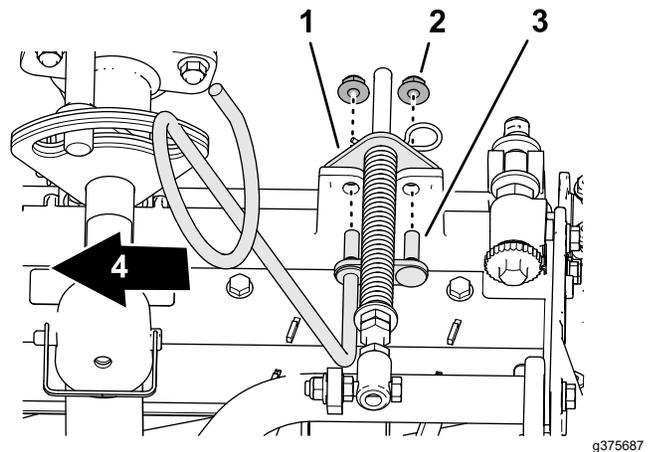

**Figure 10**
4. Assemble the capscREW of the turf compensation spring to the right tab of the carrier frame (Figure 10) with the flange locknut (3/8 inch).